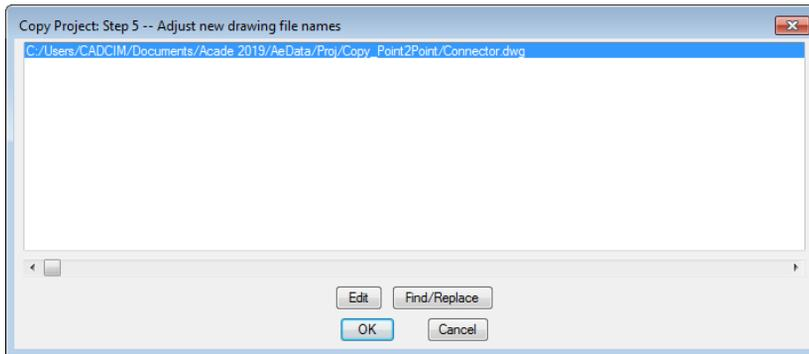

Figure 2-71 The **Copy Project: Step 5 -- Adjust new drawing file names** dialog box
- In this dialog box, the edit box located at the top displays default path for the project drawings. Choose **OK** from this dialog box; the **Copy Project: Step 5 -- Adjust new drawing file names** dialog box is displayed, as shown in Figure 2-71.